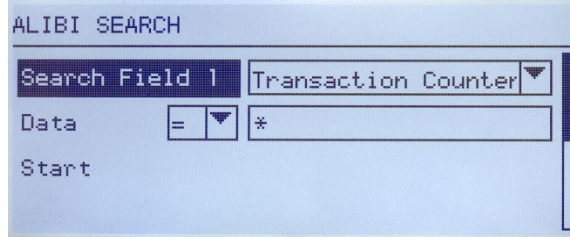

Figure D-1: Alibi Search Screen
2. The Search Screen displays. Figure D-1 shows Search Field 1 - the first of two Alibi memory search screens. Note the scroll bar at right, indicating the availability of a second screen. The second screen contains Search Field 2 and its associated data fields.